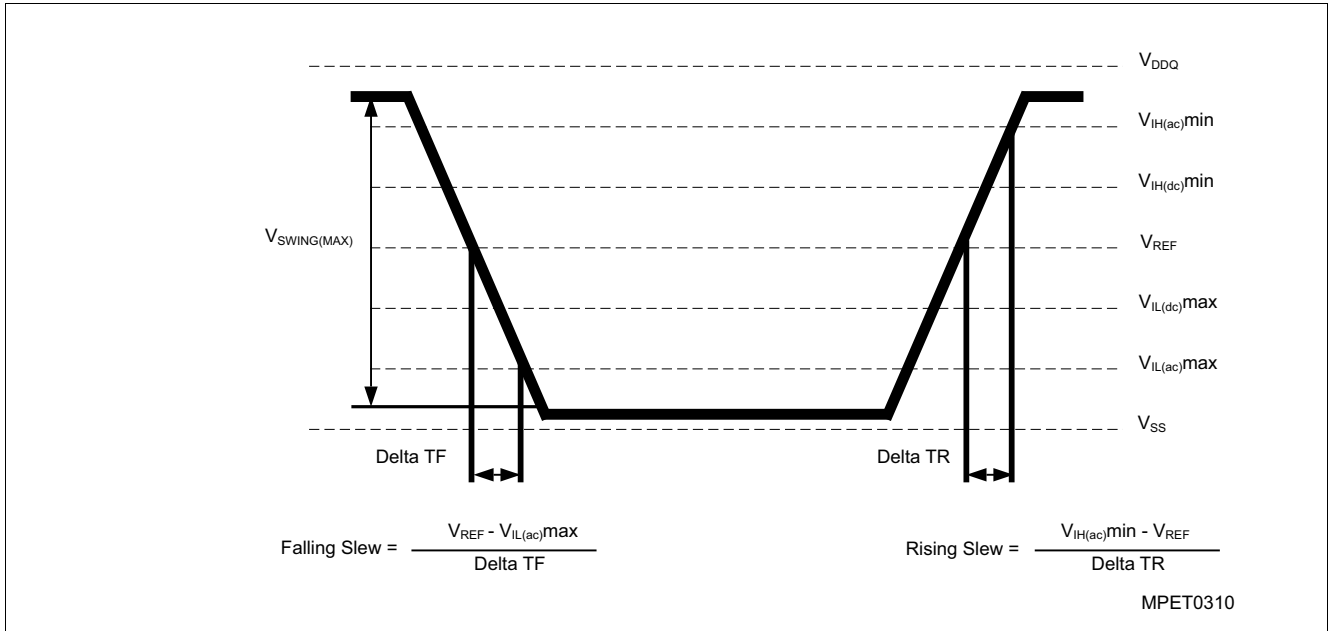

Figure 4 Single-ended AC Input Test Conditions Diagram
- 2) The input signal minimum Slew Rate is to be maintained over the range from $V_{IH(ac).MIN}$ to V_{REF} for rising edges and the range from V_{REF} to $V_{IL(ac).MAX}$ for falling edges as shown in Figure 4